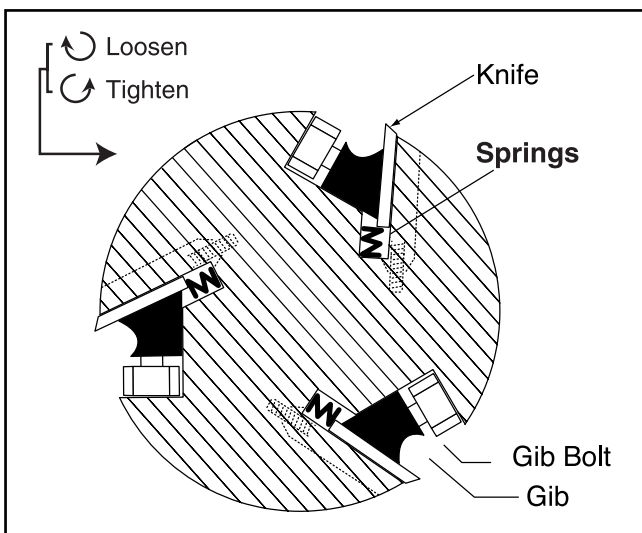

Figure 19. Side view with springs.
3. Loosen the gib bolts until the knife is loose in the slot. The gib bolts turn clockwise to loosen and counterclockwise to tighten (when facing the head of the bolt). See **Figure 19**.